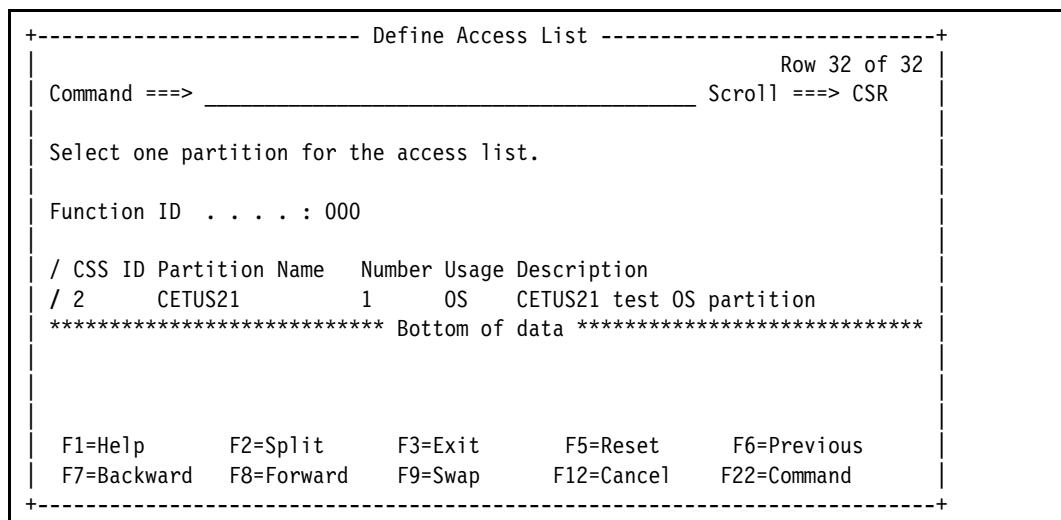

Figure 15-12 Define Access List: Selecting partition for Function access, RoCE-2
- Select the required Access LPAR for Function access list. In our example, we use LPAR CETUS21 (OS). Press **Enter**. See Figure 15-12.